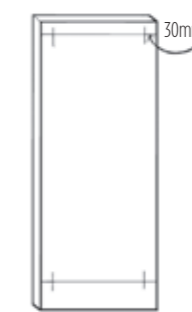

Fig 10 Mark 30mm in front and back edges
- On the side pieces, use the lines you marked earlier that denote where the top and bottom shelves will fit and mark 30mm in from the front and back edges (see Fig 10).